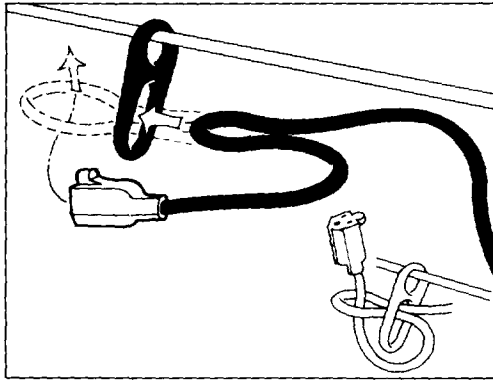

Figure 3
2. Before connecting extension cord to mower plug, attach extension cord to cord guide on mower (Fig. 3). Pull enough cord through loop so cord guide can slide from side to side when cord is connected to mower plug.